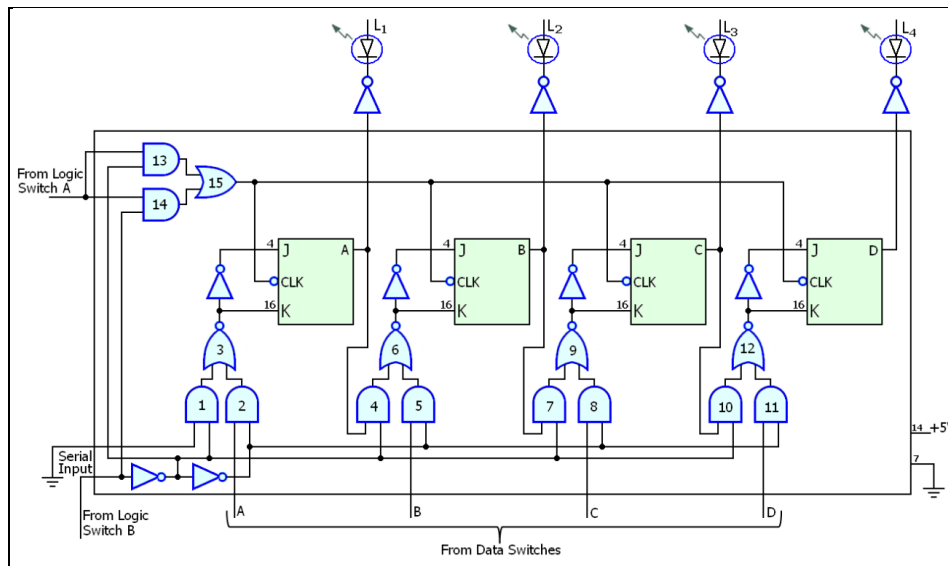

Fig. 2-2 Serial-Shift Register Circuit
- Construct the shift register circuit shown in **Fig. 2-2**. At this time you can disassemble the shift register circuits used in the previous steps. The shift register shown in Fig. 2-2 is a 74LS95 IC. This is an MSI shift register already completely wired internally and ready to use. The flexibility of the input/output leads permits this device to be used for a wide variety of functions. It eliminates the need to interconnect individual flip/flops to perform shift register operations. As before